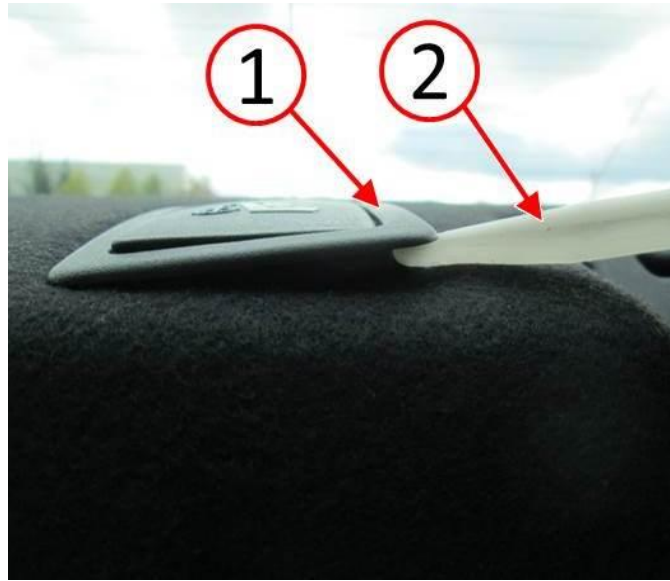

Fig. 1 Anchor Cover Removal
3. Using a trim stick or equivalent tool (2), carefully remove the three anchor covers (1) by carefully prying the anchor covers on the sides near the forward edge (Fig. 1).